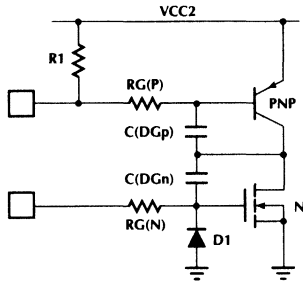

Figure 14. Causes of Cross-conduction.
Since the output section in a full bridge application consists of three half-H switches, cross-conduction can occur. Cross-conduction is the condition where an N-FET and PNP in the same phase of the bridge conduct simultaneously. This could happen under two conditions (see figure 14):
In Condition 2 above, the PNP is pulled up inside the ML4410 with a 50KΩ resistor. If the current through C(CB) is greater than  $0.7V + 50K$  when the N-FET turns on, the PNP could turn on simultaneously, causing cross-conduction. Adding R1 as shown in figure 14 eliminates this. The size of R1 will depend on the fall time of the phase voltage, and the size of the C(CB).
In higher power applications, when large MOSFETs are used, the N-Output can be pulled below GND, causing the internal substrate diode (Dint) to conduct. The negative substrate current should be limited to less than 2mA, which can be done by adding D1 as shown in figure 14. D1 prevents the gate from going below 0.7V, limiting the substrate current to: